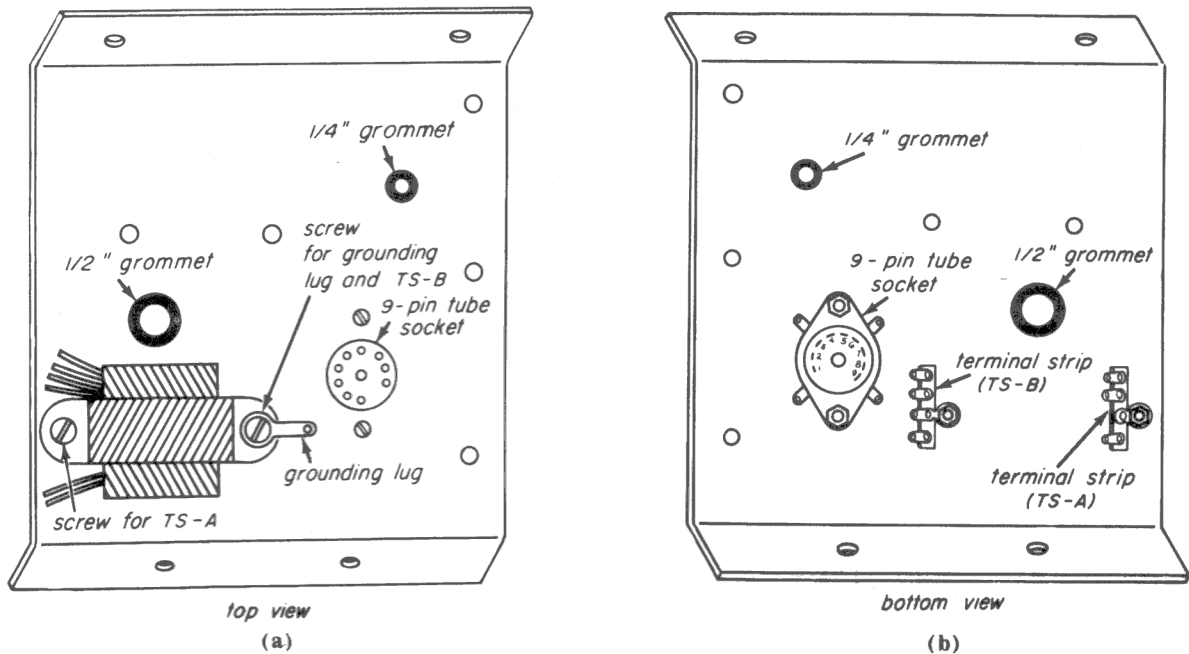

Fig. 19-3
Step 2. Study the mounting of the transformer in Fig. 19-3 before doing this step. Place the transformer on the subchassis over the mounting holes with the leads facing away from the tube socket. Take a 6-32 x 1/4-inch screw, insert through the left side (as seen from the rear) mounting hole of the transformer. On the underside insert, a 3-lug terminal strip (to be referred to as *TS-A*), a #6 lock washer and nut, and then tighten. Label the terminal strip on the underside of the chassis for future identification.
At this point, check all your mounting work with that shown in Fig. 19-3.